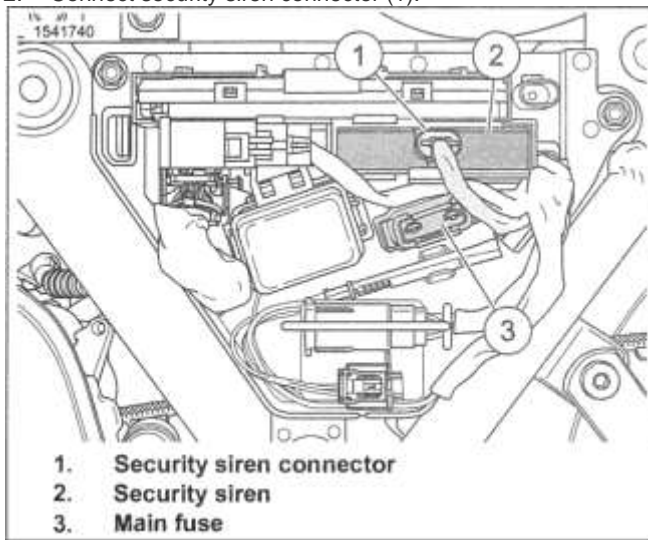

Figure 8-97. Security Siren
1. See Figure 8-97. Disconnect security siren connector (1).
2. Remove security siren (2).
1. See Figure 8-97. Install security siren (2).
2. Connect security siren connector (1).